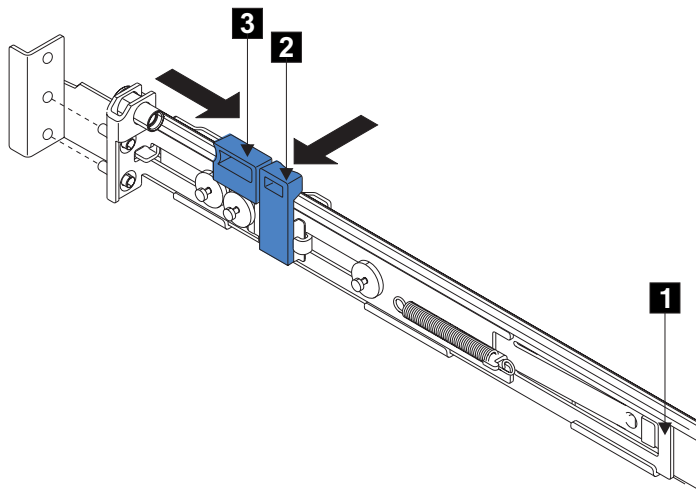

Figure 30. Aligning the rear bracket
12. Push the back rail bracket **1** (see Figure 30) toward the rear of the rack and align the locating pins with the rack-mounting flange.
13. Push the latch lock **2** (see Figure 30) away from the rail to release the carrier. The latch-lock carrier slides toward the rear of the rack, and the locating pins project through the holes that are in the rear flange and in the rear rail bracket.